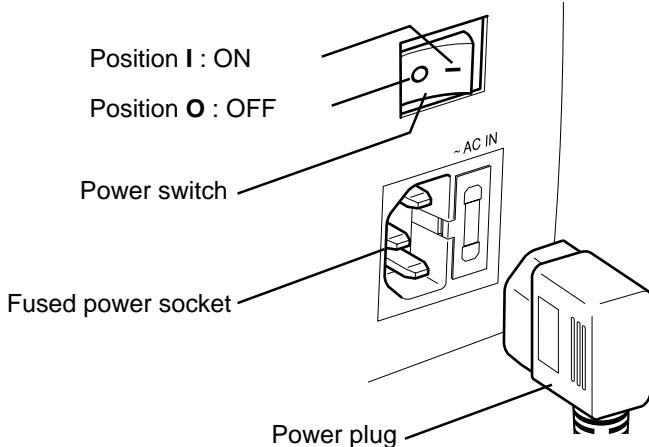

Fig. 30
**CAUTION: Connect the projector to a power supply with a nominal voltage within the following values: 100-240 Vac, 50/60 Hz. It must be earthed (Fig. 30).**